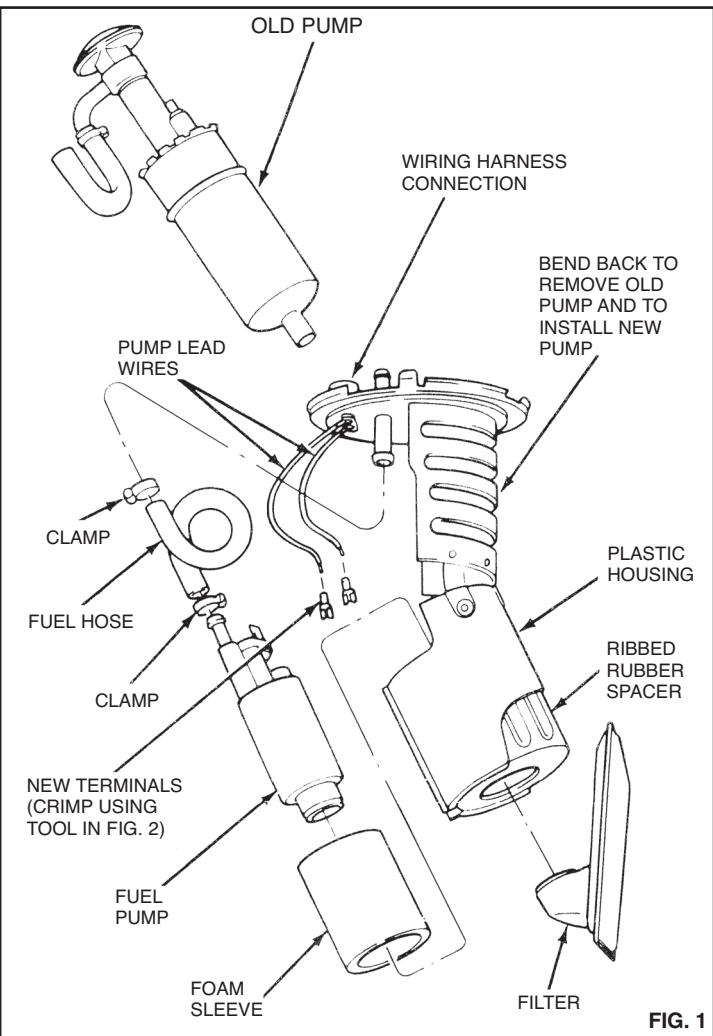

FIG. 1
(Refer to Fig. 1)
1) Insert the new pump into the foam sleeve. Insert pump and sleeve into ribbed rubber spacer that was left in plastic housing. Orient the pumps fuel fitting near front of bracket as shown in fig. 1. Lubricate the pump fitting and bracket tube with a light coating of petroleum jelly. Install the hose as shown making sure to lightly secure the clamps provided around the fittings.